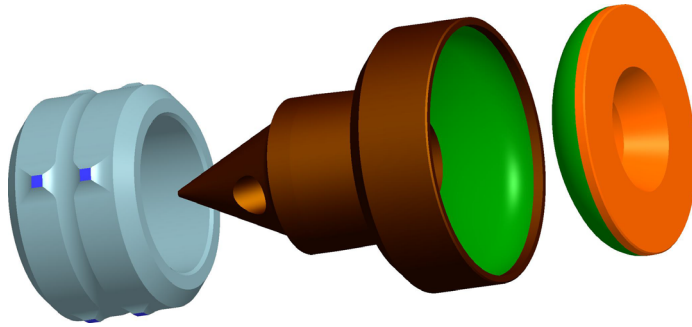

Figure 5-111 Gate seal package (left to right: transfer seal, Torpedo, and inseat)
4. Disassemble the gate seal packages into the inseat, Torpedo, and transfer seal. See Figure 5-111 Gate seal package (left to right: transfer seal, Torpedo, and inseat) for further details.